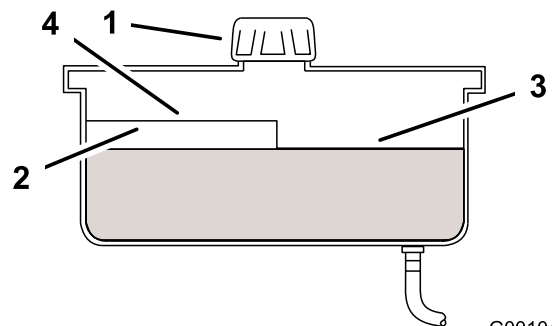

Figure 58
2. Clean the area around filler neck of hydraulic tank (Figure 58).
3. Remove the cap from the filler neck. Look inside to check if there is fluid in the reservoir (Figure 58).
Note: The fluid level should be to the top of the hot level of the baffle, when the fluid is hot (Figure 58).